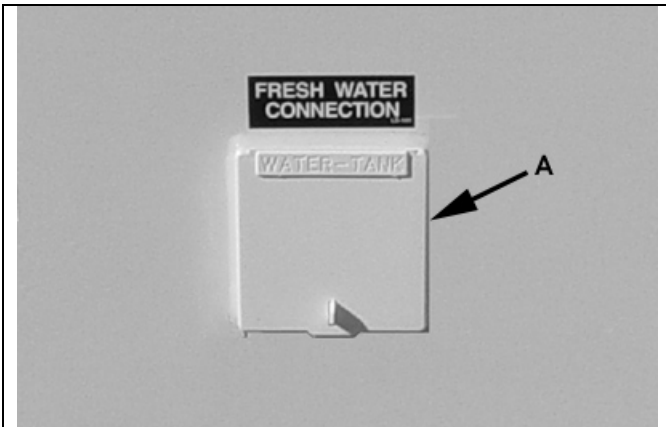

Figure 4-2 – Fresh Water Connection
To fill the potable storage tank, open the cap on the potable tank connector (A) and insert an approved potable water hose. The tank is vented to allow air to escape while filling. See figure 4-2.